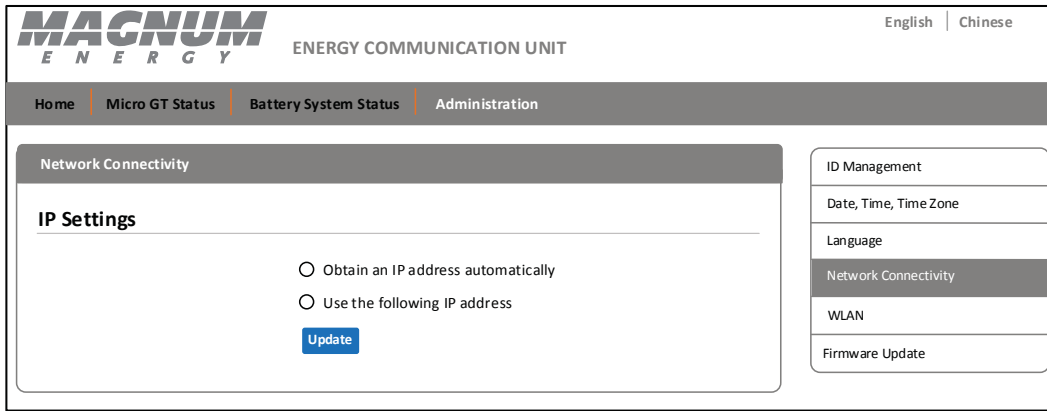

Figure 30, Network Connectivity Option
1. From the *Administration* tab, select the *Network Connectivity* option from the list to the right. The Network Connectivity screen appears (Figure 30).